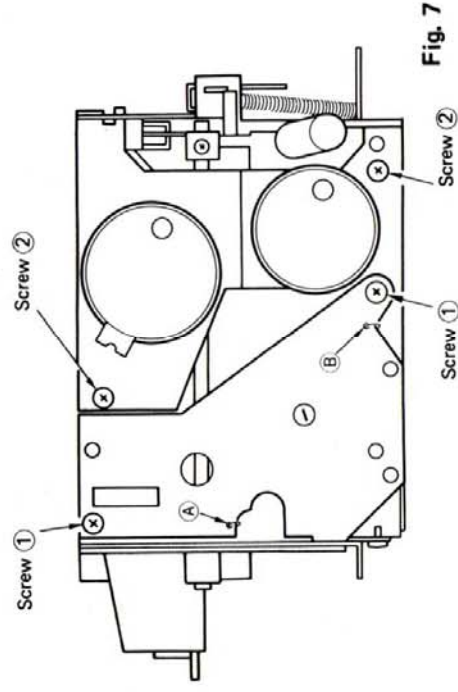

Fig. 7
- 1) Remove the Inter connect P.C. Board and play solenoid as described in procedure 2 above, and then take off 2 springs at points (A) and (B) shown in Fig. 7.
- 2) To remove the flywheel, remove 2 screws ① shown in Fig. 7.
- 2) To remove the motor holder, remove the 2 screws ② shown in Fig. 7.